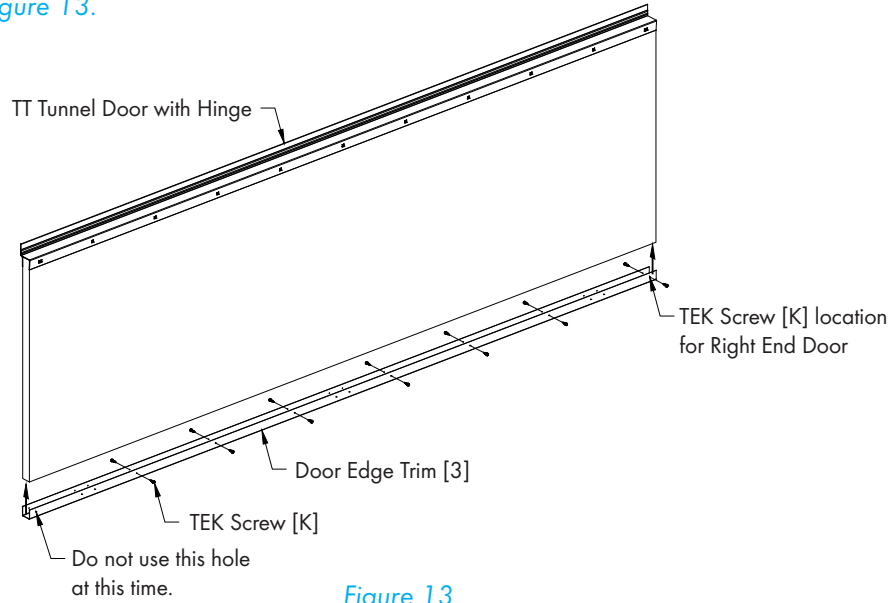

Figure 13
Find the Door Edge Trim [3] and slide it onto the bottom edge of the Tunnel Door and secure it with (14) TEK Screws [K] through the (6) single holes in the middle area of the Door Edge Trim and the right most hole. See Figure 13.